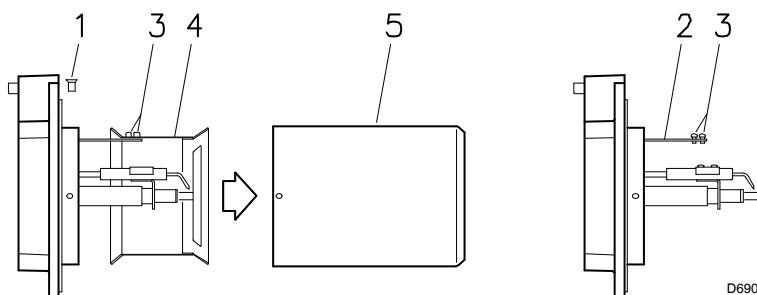

Fig. 7
5.5 Securing the burner to the boiler (Fig. 7)
- Unscrew the screws 1) (Fig. 7) and disassemble the blast tube 5)